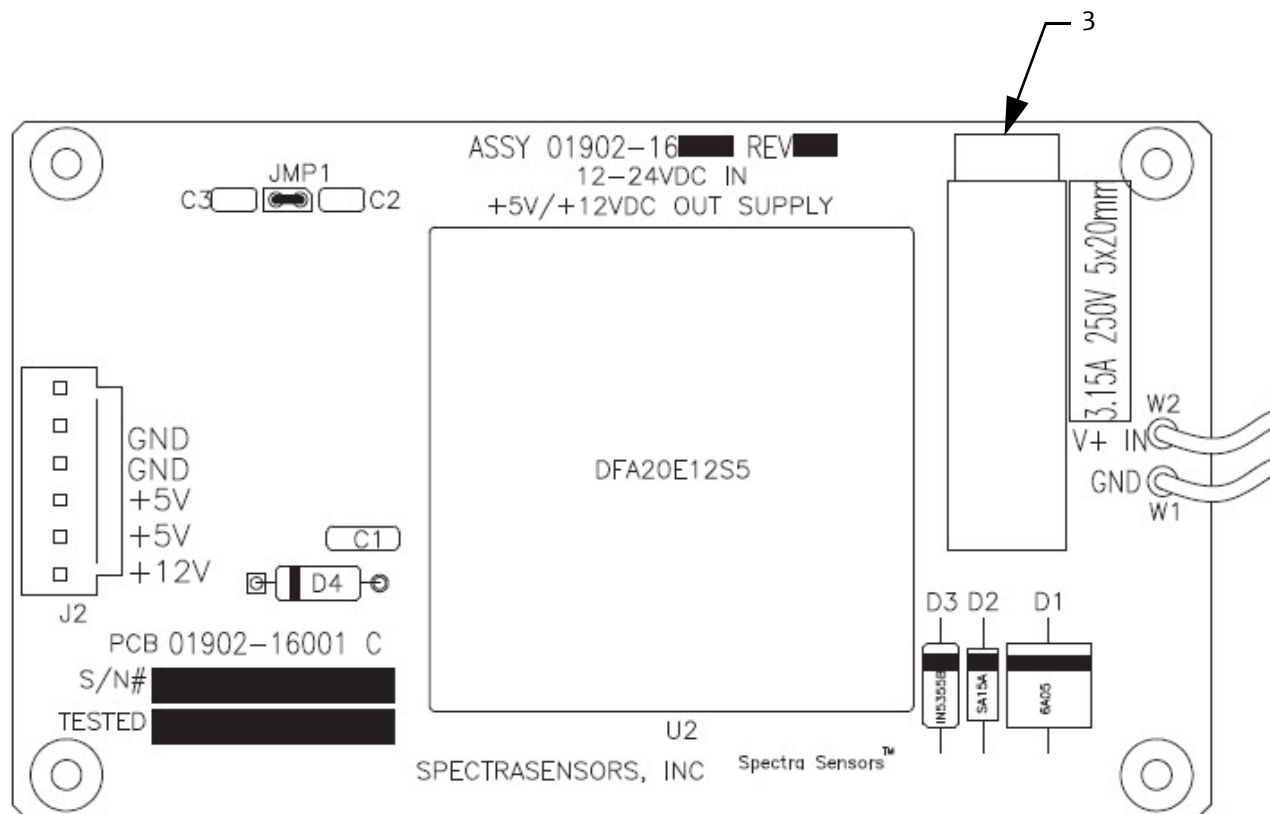

Figure A-3 SS1000 analyzer DC board / F2 fuse location
- 7 Power supply (see Fig. A-3)